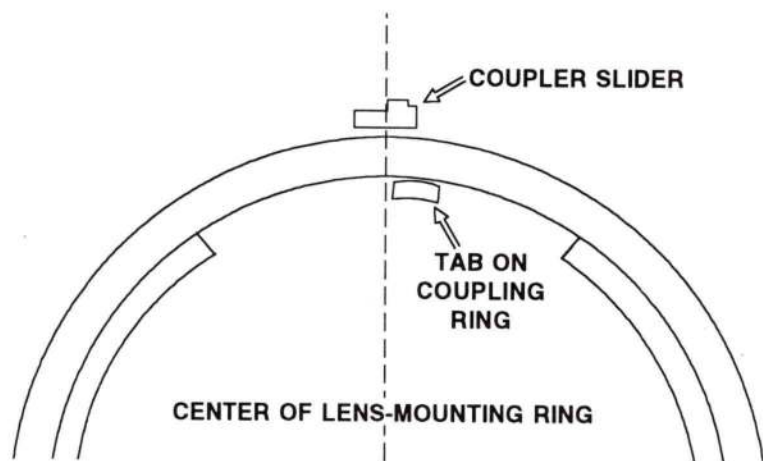

FIG. 8 FRONT OF LENS-MOUNTING RING
6. **Coupler slider.** With the tab on the coupler ring 0.2–0.4mm from the center line, Fig. 8, the edge of the coupler slider should align as shown
in Fig. 8. Shift the pulley—K in Fig. 20— after loosening its screw (reach the adjustment by removing the focusing-screen frame, Fig. 2).